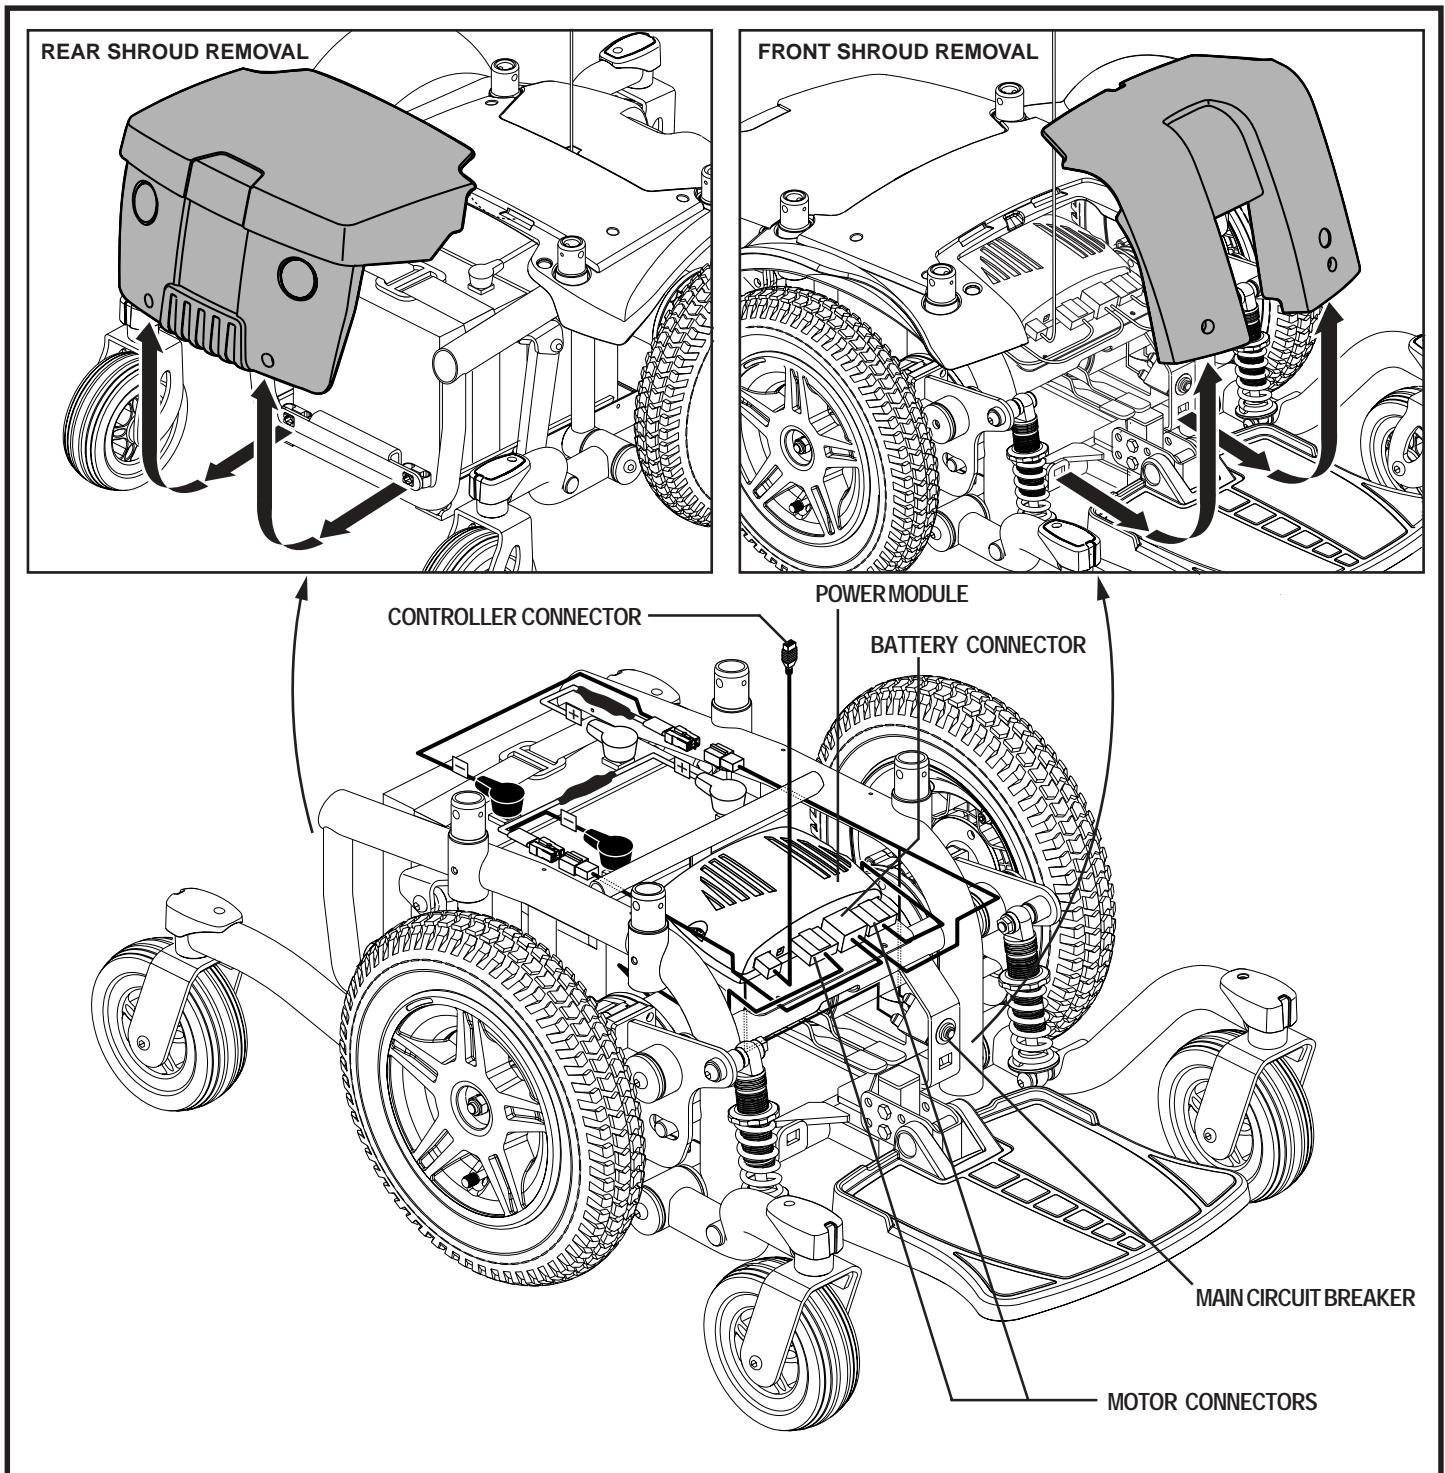

Figure 7. Jazzy 614 Series Electrical Components
The electrical components are located on or inside the power base. The main circuit breaker is located on the front of the power base. The power module is located inside the power base. See figure 7.
6. Plug the controller connector into the power base. See figure 7.
2. Disconnect the controller connector(s) from the power base. See figure 7.